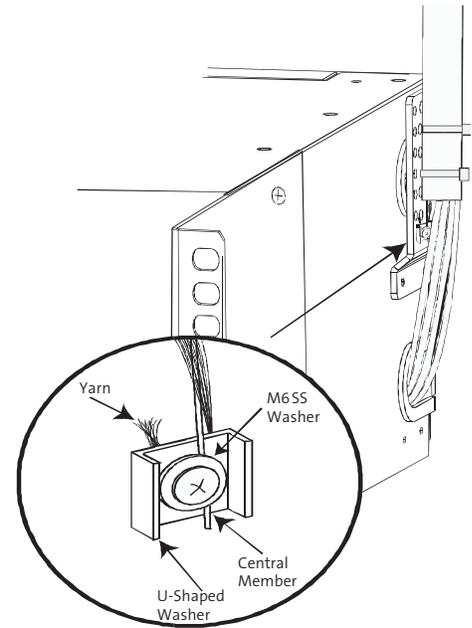

Figure 4
- Step 1:** Attach the cable to the strain-relief bracket with cable ties in two places as shown in Figure 4.
- Step 1:** Install the U-shaped washer and the flat washer on the strain-relief bracket using the supplied Phillips-head machine screw (Figure 4).